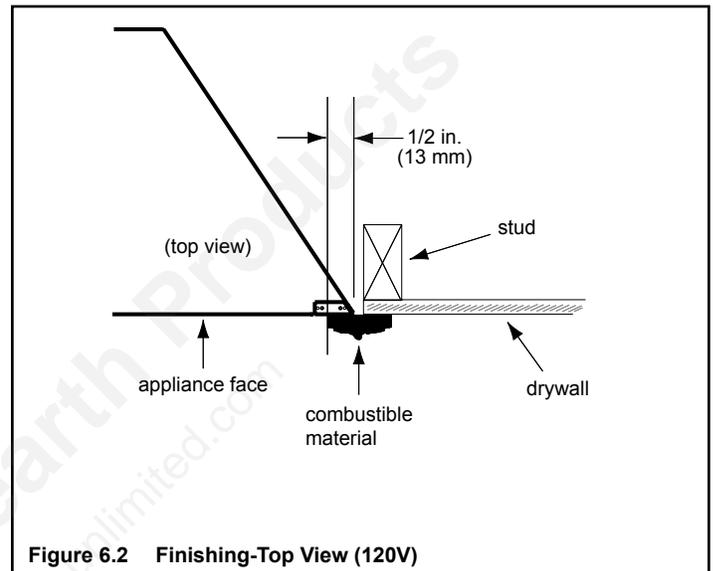

Figure 6.2 Finishing-Top View (120V)
- Combustible material **may** cover the black outer surface by 1/2 in. on the 120V heaters only. See Figure 6.2.